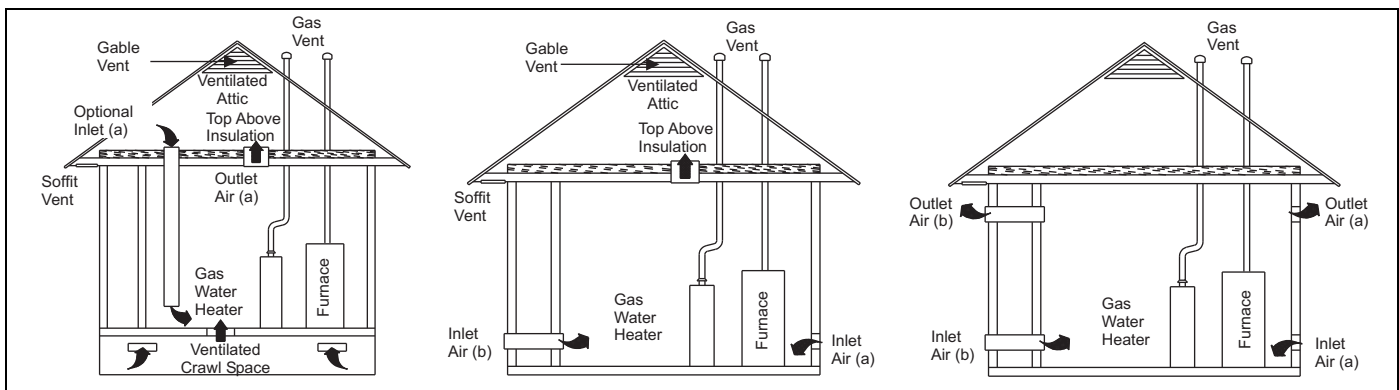

FIGURE 43: Outside and Ambient Combustion Air
3. **VENTILATED COMBUSTION AIR:** Combustion air is supplied through a PVC or ABS pipe that is connected to the PVC coupling attached to the burner box and is terminated in a ventilated attic or crawl space. The combustion air and the vent pipes are not terminated in the same atmospheric zone. Refer to Figure 43 for attic and crawl space termination. Only the combustion air intake may terminate in the attic. The vent must terminate outside.
Refer to Figure 43 for required attic termination for the combustion air intake pipe. For attic termination, use two 90° elbows with the open end in a downward position. Be sure to maintain 12" (30.5 cm) clearance above any insulation, flooring or other material.